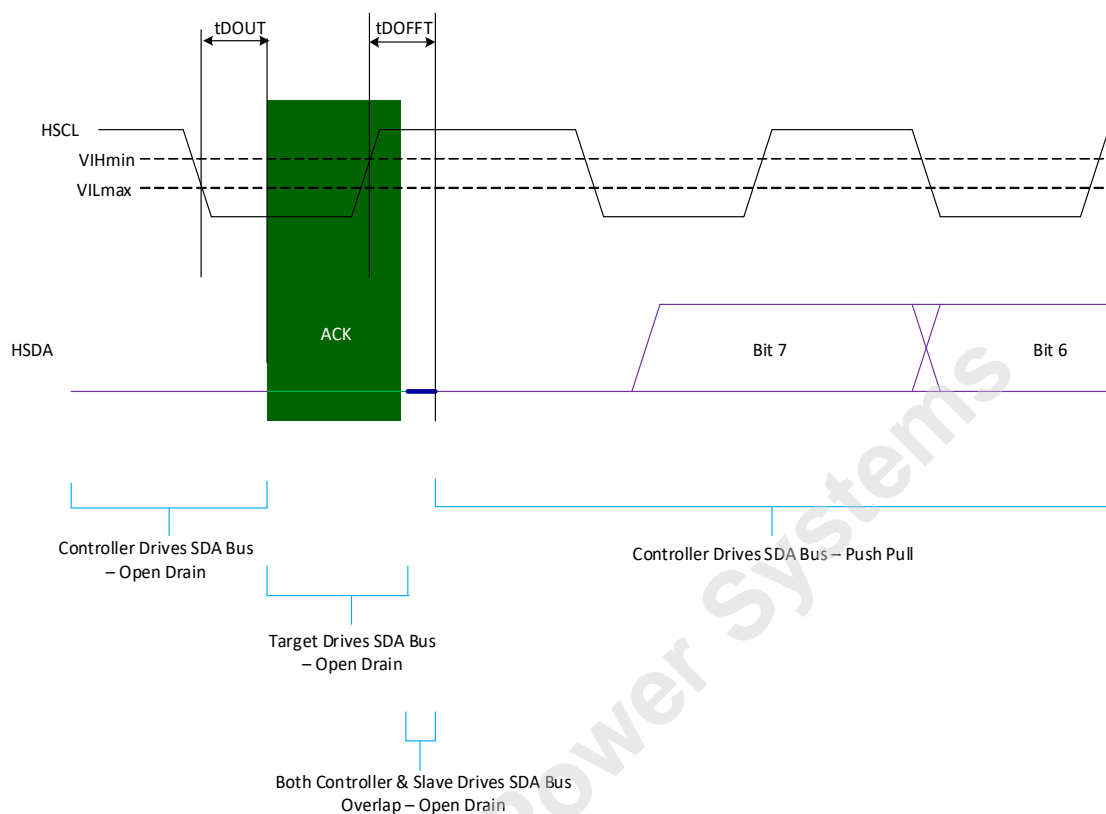
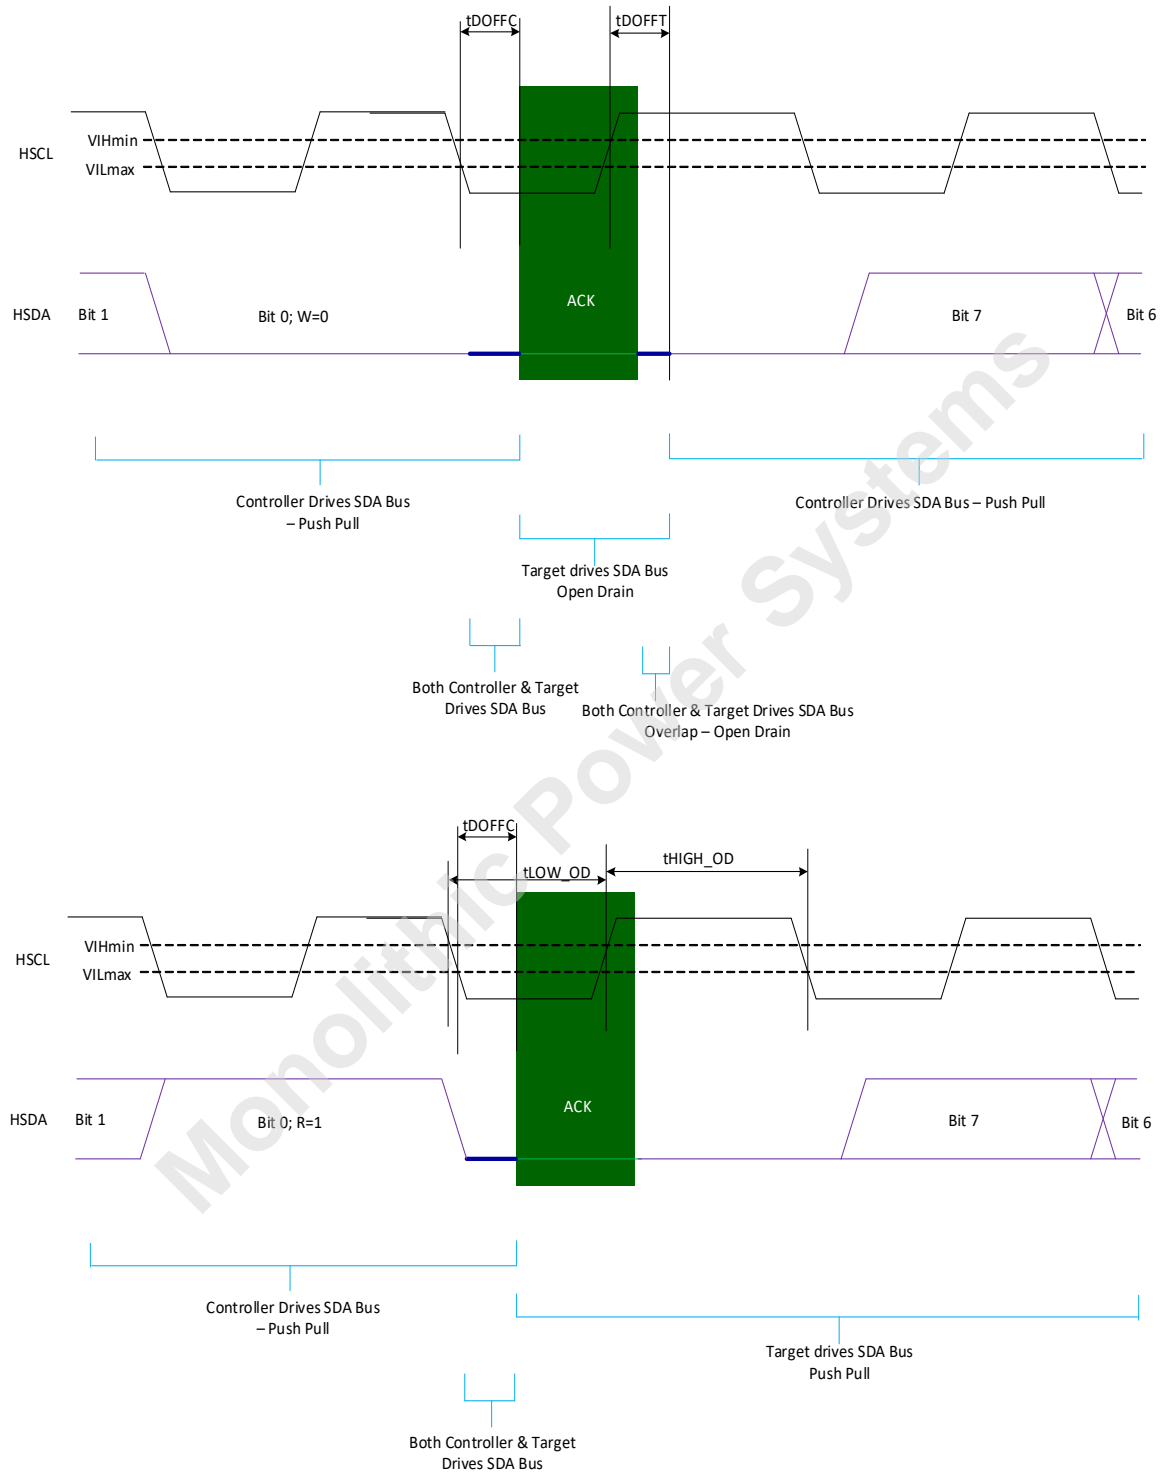

Figure 22 — Target Open Drain to Controller Push Pull Hand Off Operation
Figure 24 — Controller Push Pull to Target Open Drain Hand Off Operation
NOTE 1 See Figure 22 to see how the transition occurs from Target Open Drain (ACK) to Host Push Pull Operation (Repeat Start).
NOTE 3 See Figure 24 to see how the transition occurs from Host Push Pull Operation to Target Open Drain (ACK) and See Figure 22 to see how the transition occurs from Target Open Drain (ACK) to Host Push Pull Operation (1st bit of Address bit 7).
NOTE 5 See Figure 24 to see how the transition occurs from Host Push Pull Operation to Target Open Drain (ACK).
- NOTE 1 See Figure 22 to see how the transition occurs from Target Open Drain (ACK) to Host Push Pull operation (Repeat Start).
- NOTE 4 See Figure 24 to see how the transition occurs from Host Push Pull Operation to Target Open Drain (ACK) and Figure 22 to see how the transition occurs from Target Open Drain (ACK) to Host Push Pull operation (Address bit 7).
- NOTE 5 See Figure 24 to see how the transition occurs from Host Push Pull Operation to Target Open Drain (ACK).
- NOTE 1 See Figure 22 to see how the transition occurs from Target Open Drain (ACK) to Host Push Pull Operation (Repeat Start).
- NOTE 3 See Figure 24 to see how the transition occurs from Host Push Pull Operation to Target Open Drain (ACK).